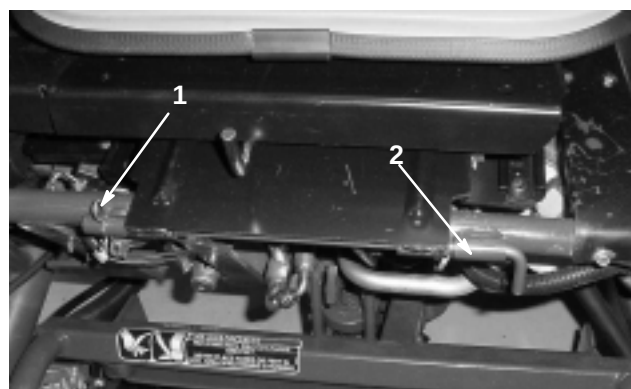

Figure 6
8. Install the seat assembly in the operating position (Fig. 6). Install the seat pivot rod and cotter pin.